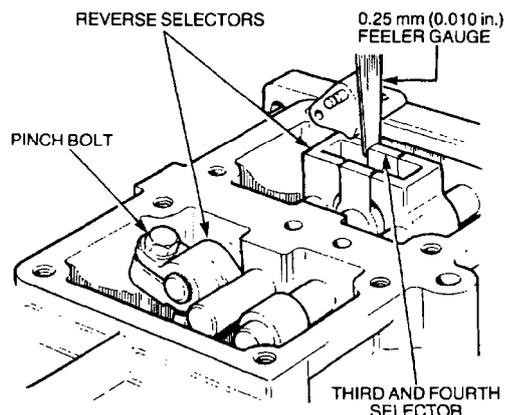

Figure 181 Reverse Selectors Adjustment
- III. Move the reverse selector shaft forward until the reverse selector is against the transmission casing. Holding the reverse selector in position, move the intermediate selector forward on the shaft until it is against the casing, then move it to the rear so it just clears the casing. Insert a 0.25 mm (0.010 in) feeler gauge between the upper edges of the reverse and the third and fourth selector (Figure 181). Ensure that the feeler gauge is inserted at the upper edges of the selector jaws. The jaws taper slightly and the setting will not be correct if the feeler gauge is inserted lower down.
- mmm.** Hold the reverse, third and fourth selectors together to retain the feeler gauge. Rotate the reverse intermediate selector until it is against the third and fourth selector shaft and tighten the pinch-bolt (Figure 181).